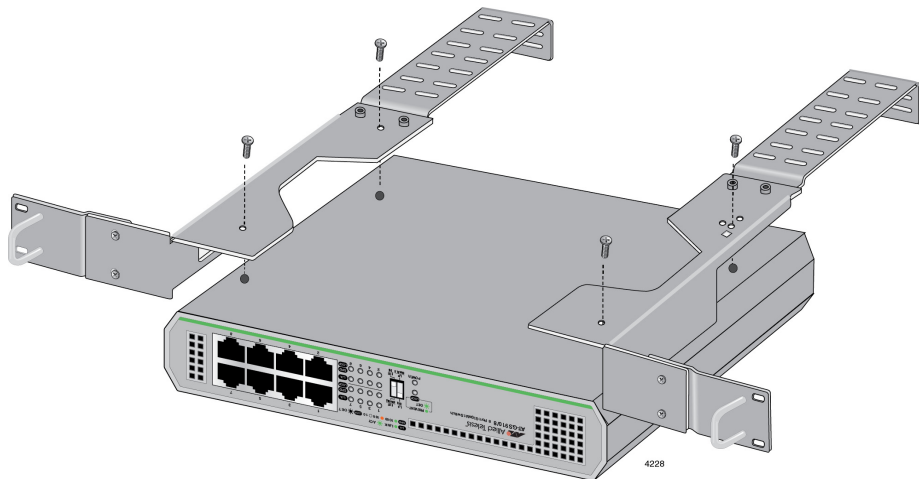

Figure 37. Attaching the Plates to the Switch
6. Attach the units in Step 4 to the switch with M3x6mm screws using a Phillip-head screw driver as shown in Figure 37.